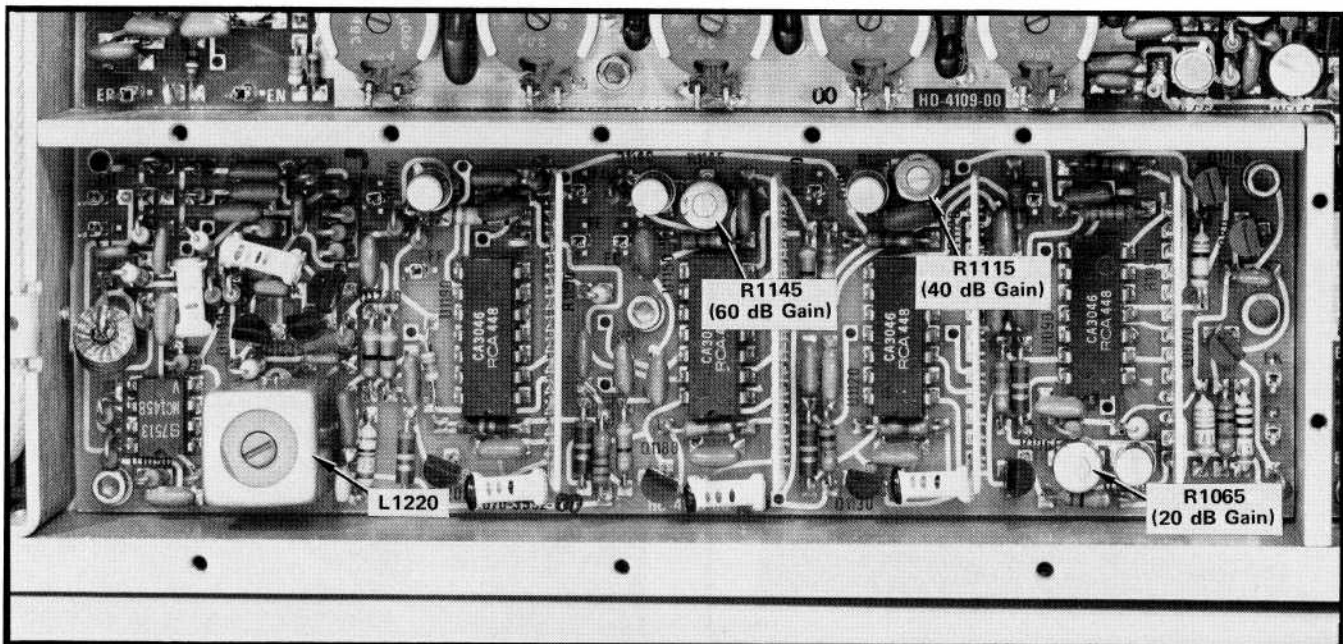
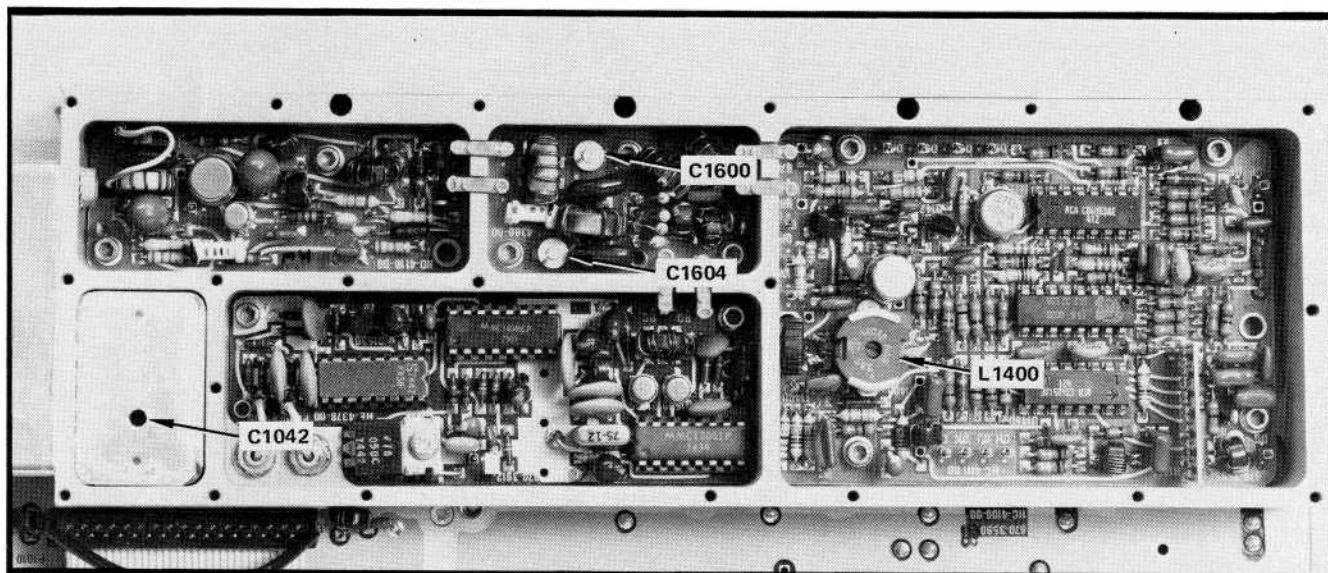

Fig. 4-13. Test points and adjustments on the Log/Lin Amplifier board.
Fig. 4-14. Test points and adjustments on the 250 kHz IF Amplifier, 10.8 MHz Input Filter and 2nd Mixer.
3. Adjust the 20 dB Gain, with R1065 (Fig. 4-13), so the signal level equals the reference level (established in step 1).
5. Adjust the 40 dB Gain with R1115 (Fig. 4-13) so the display level equals the reference level.
6. Repeat the procedure to calibrate the 60 dB Gain with R1145 (Fig. 4-13).
c. Adjust L1200 (Fig. 4-13), L1400, C1604, C1600, and C1042 (Fig. 4-14) for maximum response to the 500 kHz Calibrator signal.